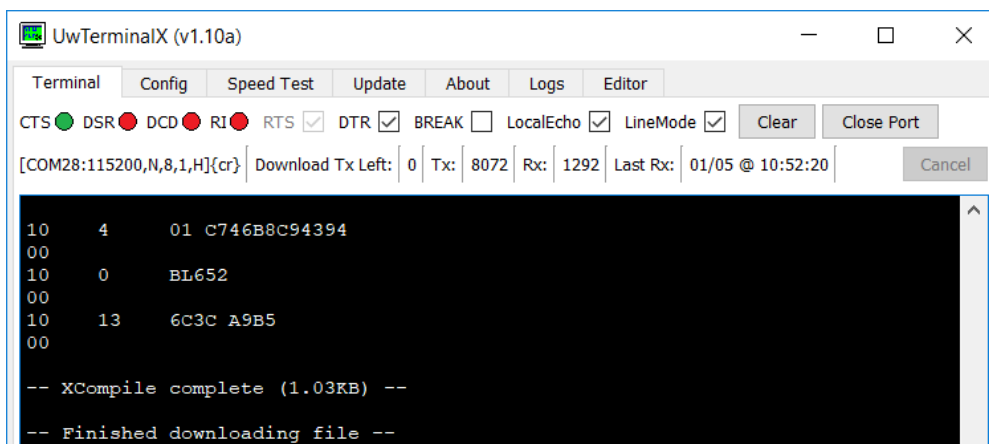

Figure 4: Application compiled and loaded
2. Locate and open the **uclp.uart.low.power.operation.sb** application located in the supplied *smartBASIC Applications* folder downloaded from GitHub. When the application is successfully compiled and loaded, the console displays -- **Finished downloading file --** (Figure 4).